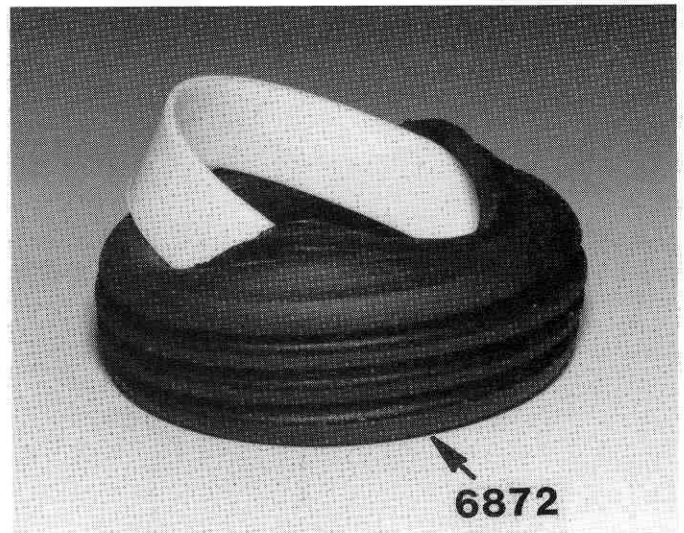

Fig. 147
□ **Fig. 147** Take the #6854 front wheels and #6872 front tires out of the box. (NOTE: Tires in kit may differ from those shown in photos.) We want to put the large plastic ring inside the tire as shown. Work the ring into the tire until it is seated evenly. Tires vary a lot. Some will go on quite easily, and some will be quite difficult to install. On the tough ones, soapy water, like dish washing soap, will help the rubber to slip easier and will make mounting the tires much simpler. Be sure to rinse off the soap and then dry the tires thoroughly.